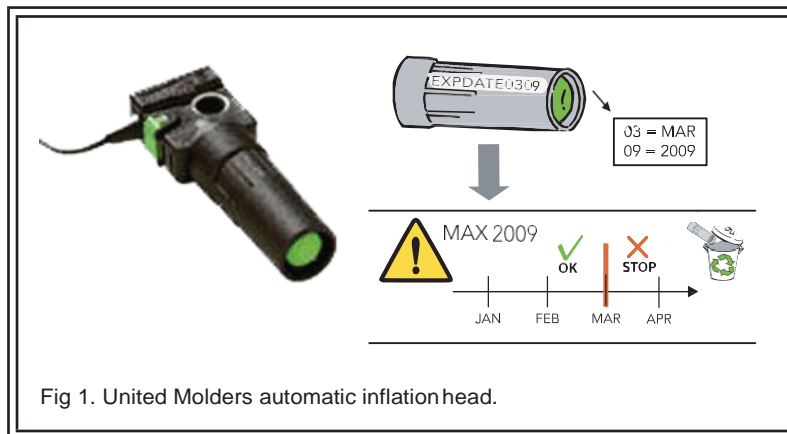

Fig 1. United Molders automatic inflation head.
- a. For automatic models fitted with United Molders automatic inflation head with water sensing cartridge (Fig 1) UML cartridge has 3 year lifespan and is printed with an expiry date.